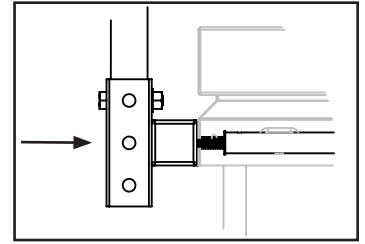

FIG. 6
4. Install vertical post into corner bracket, using $\frac{1}{2}$ "-13 x 2-1/2" bolts & $\frac{1}{2}$ "-13 flange nut. Select one of the three mounting positions in the corner bracket so that the top rail resides at 42" above the walking surface, to insure code compliance. Install all 4 vertical posts. (Fig. 6)